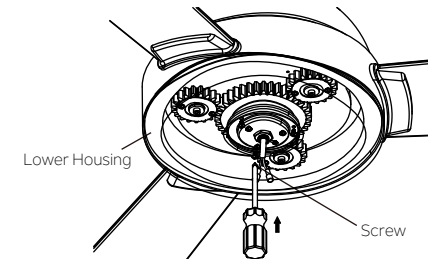

Fig. 22
**Step 2.** Attach the lower housing to motor body, insert three (3) screws previously removed into the holes and securely tighten them. (Fig. 22)